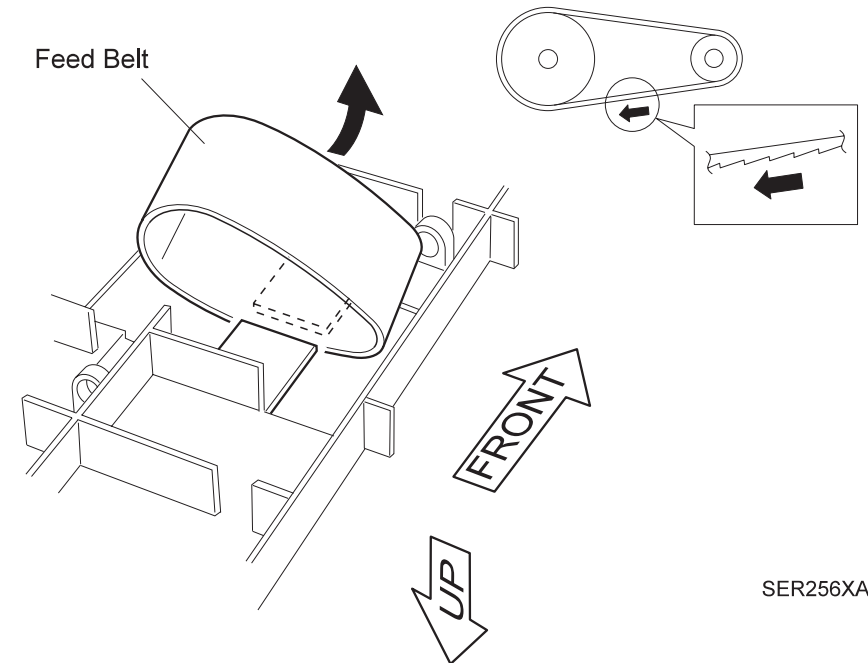

Figure 4-11. Feed Belt
1. Position the Feed Belt so the tooth of the Belt is pointing in the direction as shown in the illustration (Figure 4-11).
2. Look at the side of the Feed Belt, and align the Belt so the teeth are in the position as shown in Figure 4-11.